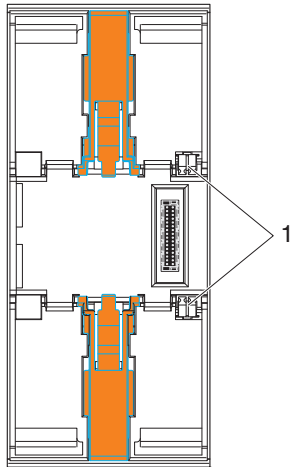

Figure 8-1 FE spring (1)
- 1 The modules have at least one FE spring (metal clip, 1 in Figure 8-1) at the bottom. This spring establishes an electrical connection to the DIN rail when the module is mounted. The bus coupler has one FE spring, the I/O modules have one or two FE springs. When using grounding terminal blocks to connect the DIN rail to protective earth ground, the modules are then also grounded when snapped onto the DIN rail.